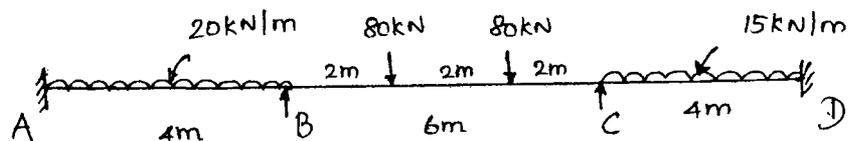

Fig. 5
13. (a) Analyse the continuous beam loaded as shown in Fig. 5 by the slope deflection method and sketch the bending moment diagram, given : $2 I_{AB} = I_{BC} = 2 I_{CD} = 2 I$